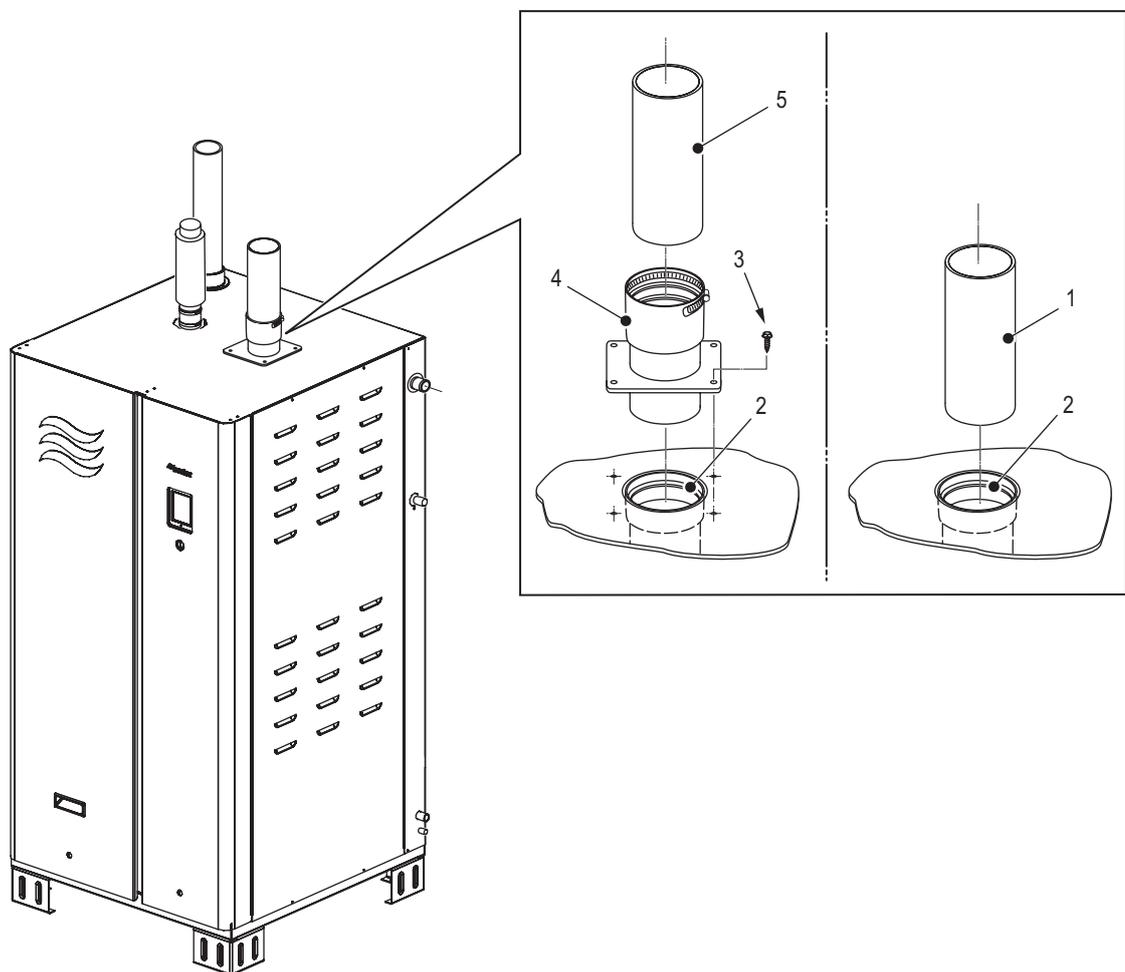

Figure 22: Condair GS Exhaust Vent Connection
Each CS model is supplied with an adapter (with internal gaskets). To connect the plastic exhaust vent to the unit, first insert the adapter into the exhaust outlet and secure it to the top panel with four sheetmetal screws (supplied) – refer to Figure 22. Then slide the exhaust vent into the adapter until it bottoms out, and secure it with the clamp built into the adapter. A sealant is not required.
- The plastic vent pipe must be connected to the exhaust outlet on the humidifier – refer to *Figure 22 on page 49*.